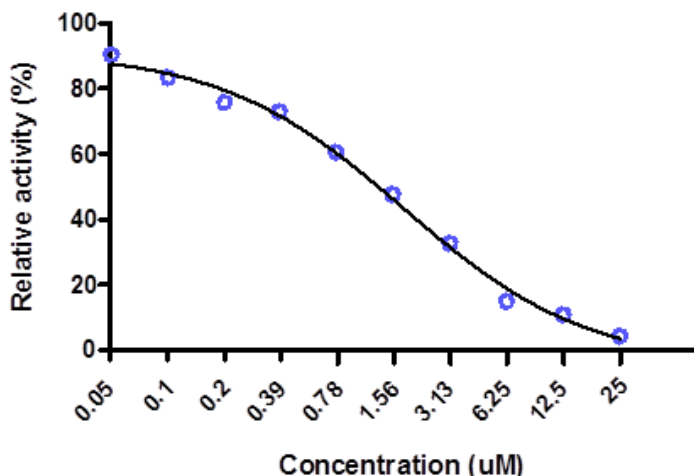

Figure 2. Inhibition of Papain-like protease activity by GRL0617 as measured with SensoLyte® 520 SARS-CoV-2 Papain-like Protease Deubiquitination Assay Kit.
- Plot the fluorescence reference standard curve as RFU (relative fluorescent units) versus concentration as shown in Figure 2.